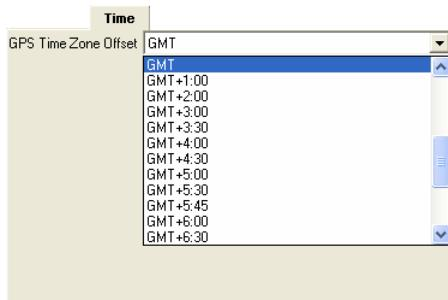

Figure 5-16. Time Tab
- The Time tab (Figure 5-16) set the GPS time zone offset.